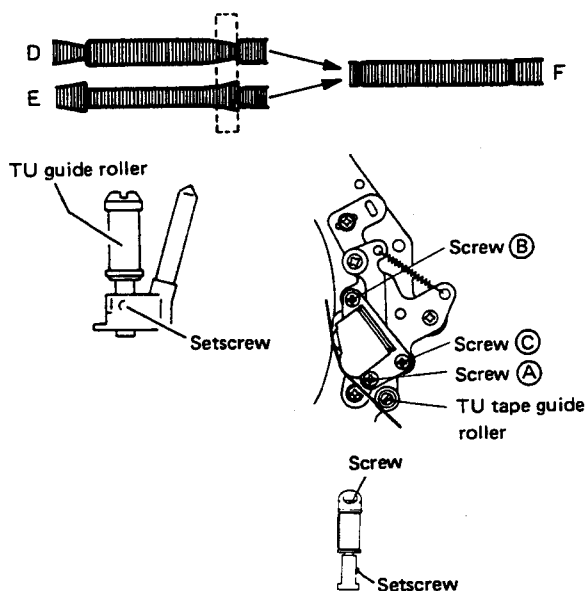
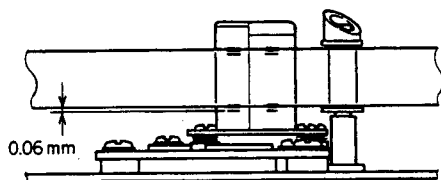

Fig. 2-45 Drum output adjustment
Fig. 2-46 A/C head height
6. If the waveform appears as shown by D or E of Fig. 2-45, adjust the take-up guide roller height to obtain a linear waveform as shown by F.
8. Confirm that the A/C head assembly height with respect to the tape and transport is as shown in Fig. 2-46. If necessary, adjust by turning screws A, B and C by equal amounts. Fig. 2-45.